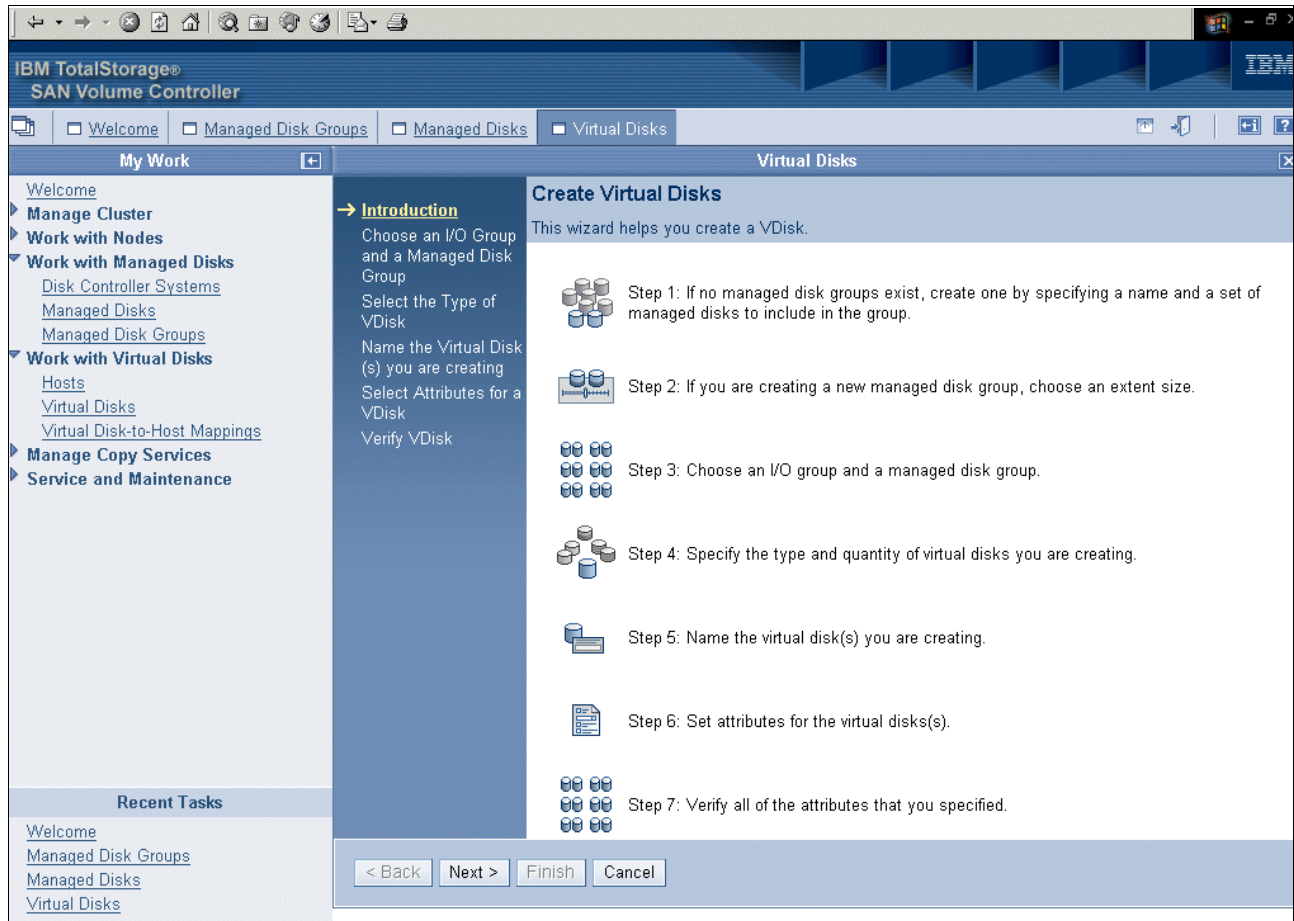

Figure 6-32 Create Virtual Disks wizard
4. The Create Virtual Disks wizard (Figure 6-32) opens. Click the **Next** button.